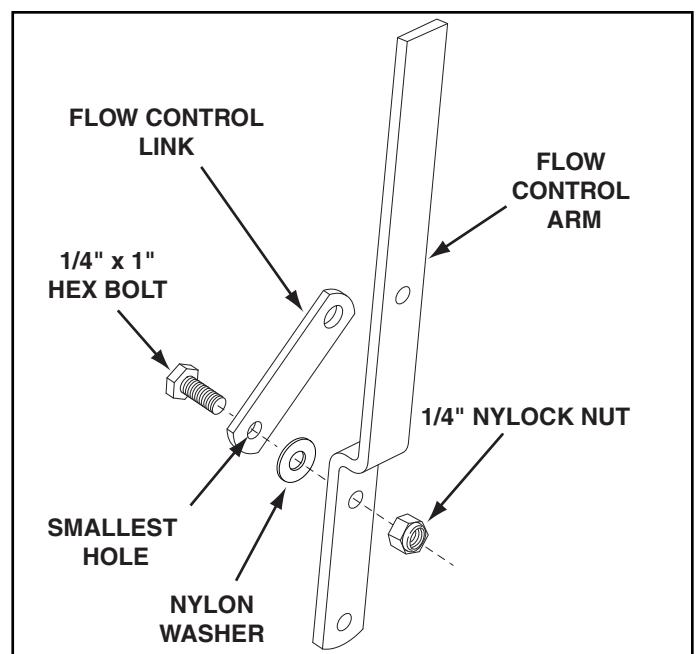

FIGURE 7
15. Assemble the flow control link (end with small hole) to the flow control arm using a 1/4" x 1" hex bolt, a nylon washer and a 1/4" nylock nut. **Tighten** the nut until the flow control link pivots with a slight resistance. See figure 7.